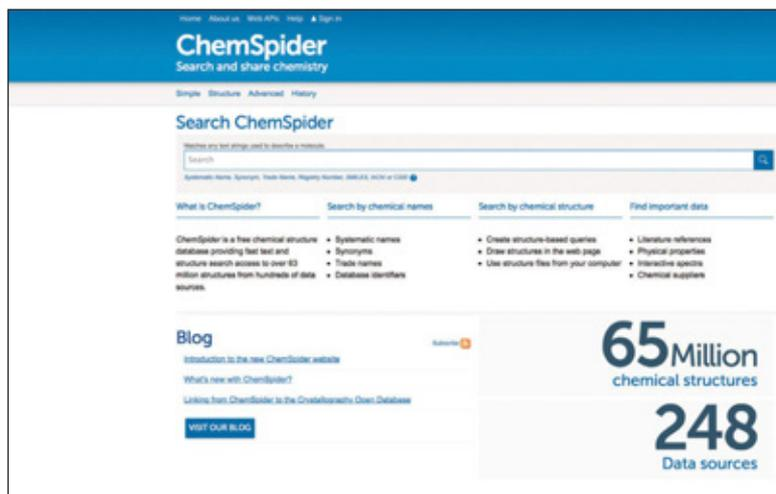

FIGURE 2 There is a link to the ChemSpider website on your obook assess.
The *Merck Index* and the *CRC Handbook of Chemistry and Physics* are examples of these types of collections of data. Increasingly, this information can also be found in online versions of books or on scientific websites. For example, ChemSpider is a free resource put together by the Royal Society of Chemistry (UK) that covers about 71 million compounds (Figure 2).